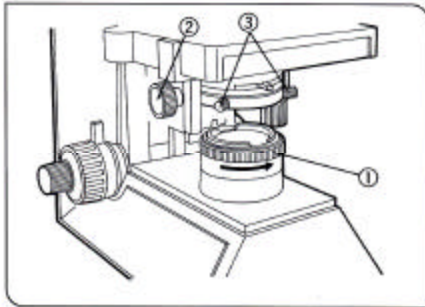

Fig. 21
1 Centering the Field Iris Diaphragm (CH40 only) (Figs. 21, 22)
1. With the 10X objective engaged and the specimen brought into focus, turn the field iris diaphragm dial ① counterclockwise to stop down the diaphragm somewhat. (Fig. 21)
2. Turn the condenser height adjustment knob ② to bring the field iris diaphragm image into focus. (Fig. 21)
3. While gradually opening the field iris diaphragm image, rotate the two centering knobs ③ of the compensating lens to adjust so that the field iris diaphragm image is centered in the eyepiece field of view. (Figs. 21, 22)